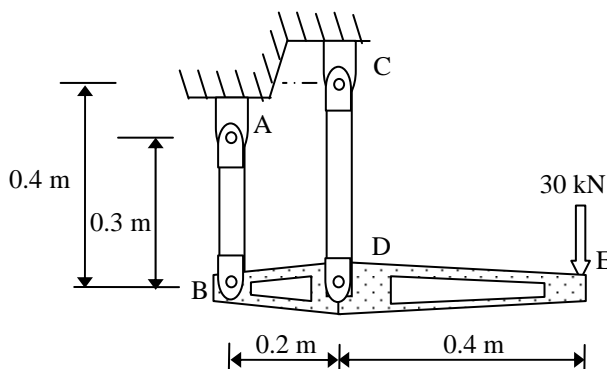

Fig. 2
4. The rigid bar BDE (Fig. 2) is supported by two links AB and CD. Link AB is made of aluminum ( $E=70 \text{ GPa}$ ) and has a cross-sectional area of  $500 \text{ mm}^2$ ; link CD is made of steel ( $E=200 \text{ GPa}$ ) and has a cross-sectional area of  $600 \text{ mm}^2$ . For the  $30 \text{ kN}$  force shown, determine the deflection of point B, D and E.